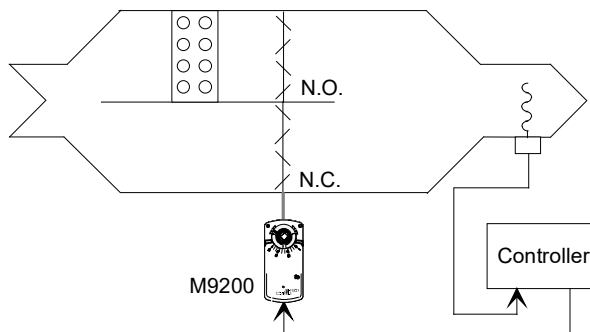
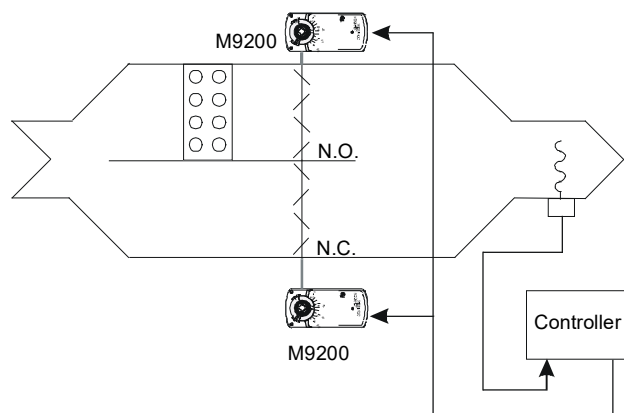

Figure 1: Face and Bypass Damper Control, Single Actuator
Figure 5: Face and Bypass Damper Control, Two Actuators
Several options are available for this application. One actuator can control mechanically linked dampers as shown in Figure 1; or two M9100 actuators, one Direct Acting (DA) and one Reverse Acting (RA) can be used on each independent damper as shown in Figure 5.